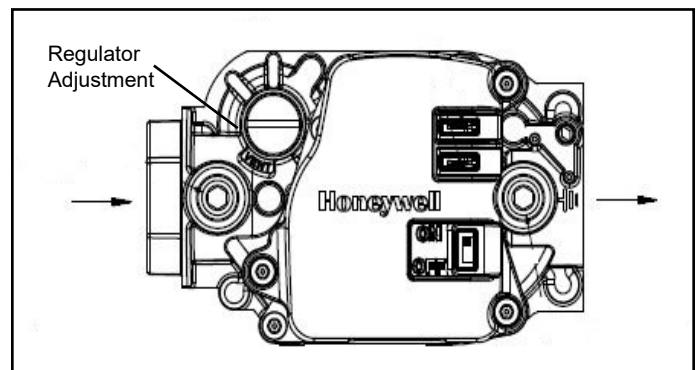

Figure 7. Gas Valve
3. Slide the gas valve switch to the "ON" position (see Figure 7).
2. Slide the gas valve switch to the "OFF" position (see Figure 7).
The manifold pressure can be measured by shutting off the gas, removing the pipe plug in the downstream side of the gas valve, and connecting a water manometer or gauge. **Under no circumstances should the final manifold pressure vary more than 0.3" w.c. from the above specified pressures.** To adjust the regulator, turn the adjusting screw on the regulator clockwise to increase pressure and input or counterclockwise to decrease pressure and input. See Figure 7 to assist in locating the regulator on the gas valve.
1. Slide the gas valve switch to the "OFF" position (see Figure 7).